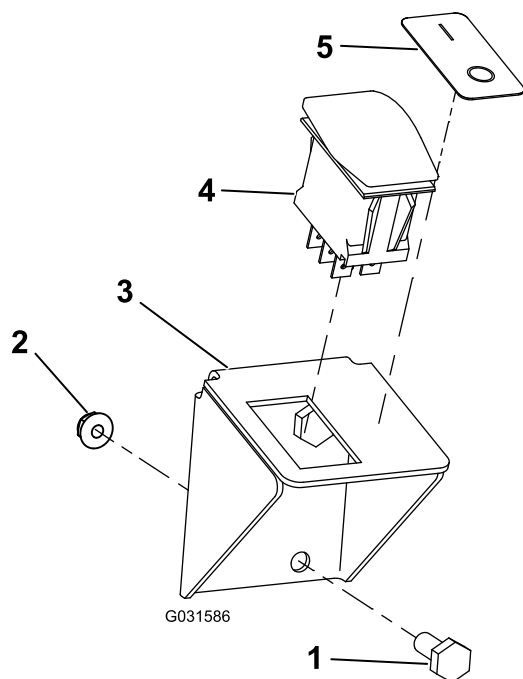
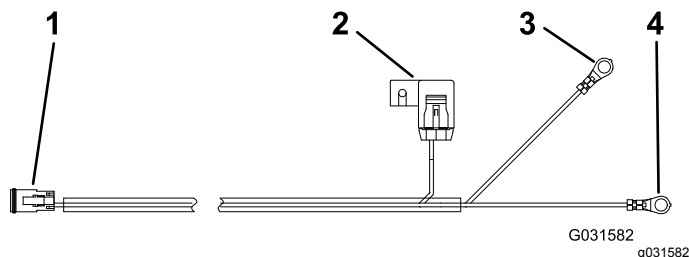

Figure 9
Figure 11
- B. Mount the switch bracket to the dash using the 2 bolts and 2 flange nuts (Figure 9).
4. Connect the switch harness to the switch (Figure 9 and Figure 11).
5. Place the decal next to the switch (Figure 9).
To power the kit directly from the battery, use the battery harness (Figure 11).